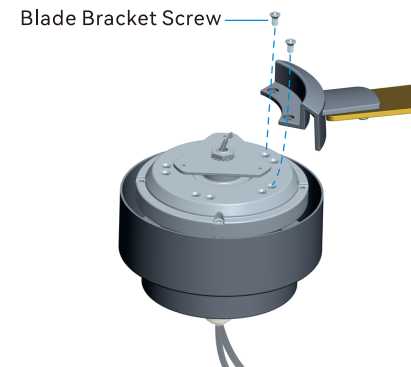

Fig 2.1
2.1 Fix the prepared blade bracket to the motor housing with the blade bracket screws as shown in Fig 2.1.